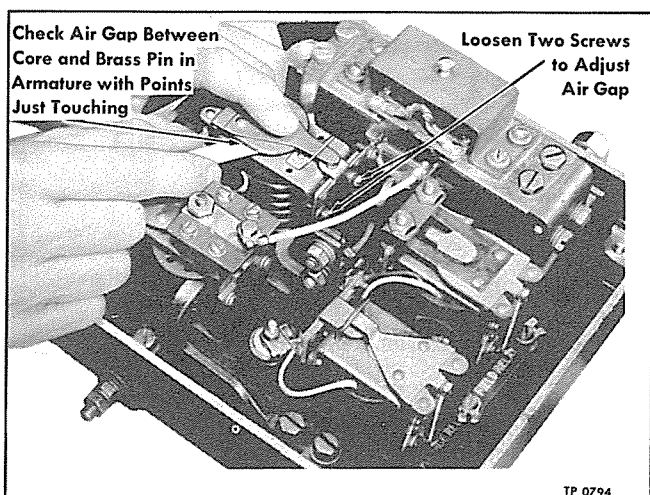

Figure 8—Actuating Relay Air Gap Check and Adjustment
1. Press armature down UNTIL POINTS JUST MEET and measure air gap between core and brass residual pin on armature (fig. 8). This dimension should be as listed under "Specifi-